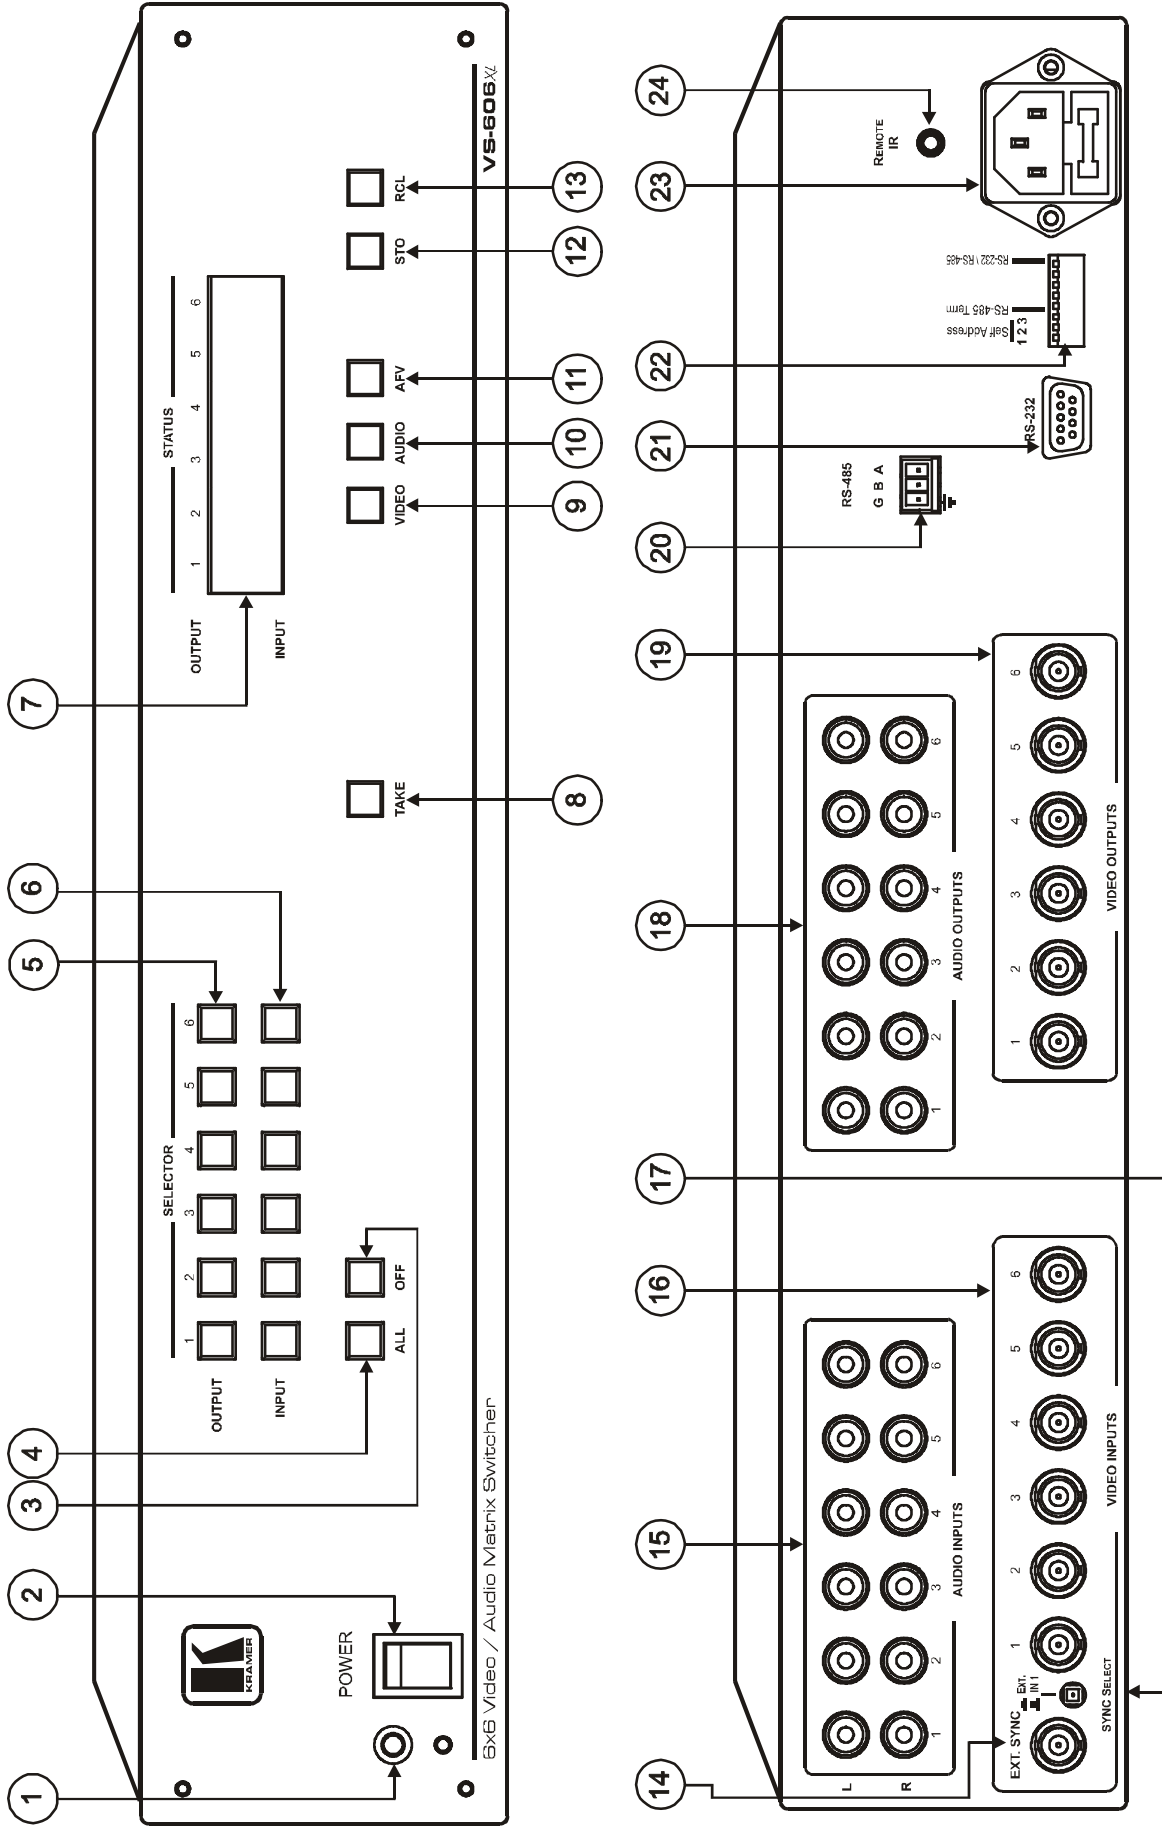

Figure 1: VS-606xl 6x6 Video/Audio Matrix Switcher
- **VS-606xl**, illustrated in *Figure 1*, has 6 inputs and 6 outputs